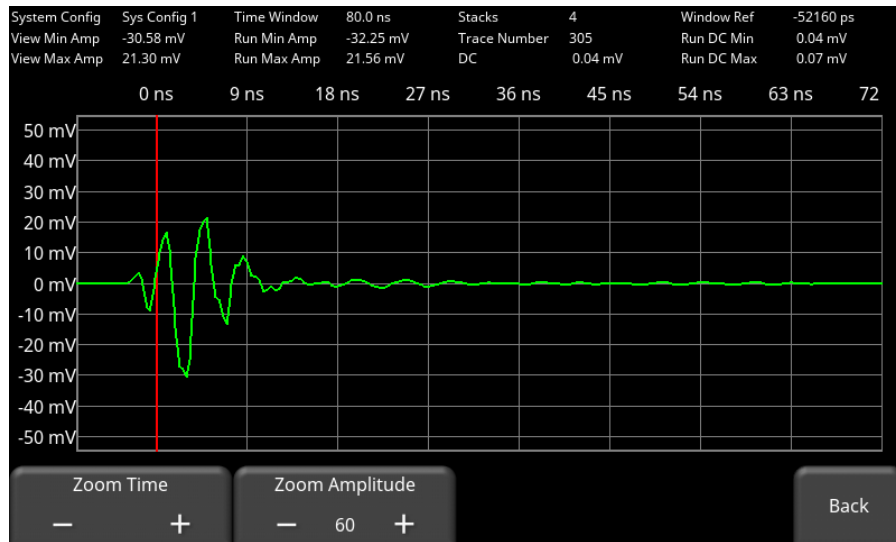

Figure 5-39: Zooming options (PRO Receiver shown)
- Zoom** – Pressing this button changes the menu at the bottom of the screen (Figure 5-39) allowing the user to change the time window (Zoom Time, the horizontal axis) and the amplitude (Zoom Amplitude, the vertical axis).